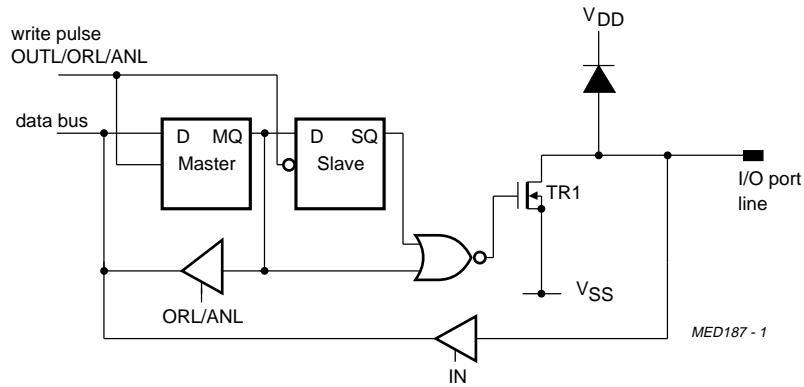

Fig.48 Open drain output (Option 2).
The I2C-bus master and slave transceiver is integrated. In control register CON1 (Derivative Register 22) bits SCLE and SDAE select the function of pins DP20/SDA and DP21/SCL (for selection see Table 23); SDA = I2C-bus data and SCL = clock line. Both pins are only available in port option 2 (see Fig.48).
- Option 1 Input/output with Open drain output; this is shown in Fig.48.